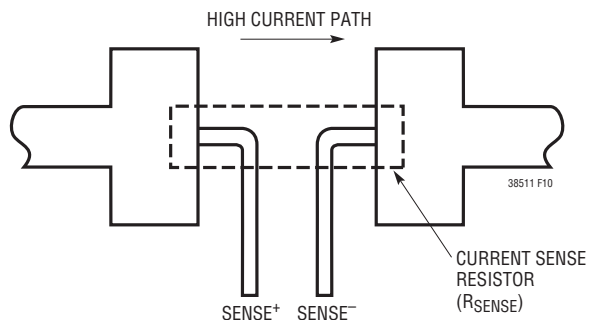

Figure 10. Kelvin Sensing R_{SENSE}
3. Are the $SENSE^-$ and $SENSE^+$ leads routed together with minimum PC trace spacing? The filter capacitor between $SENSE^+$ and $SENSE^-$ should be as close as possible to the LTC3851-1. Ensure accurate current sensing with Kelvin connections as shown in Figure 10. Series resistance can be added to the SENSE lines to increase noise rejection and to compensate for the ESL of R_{SENSE} .